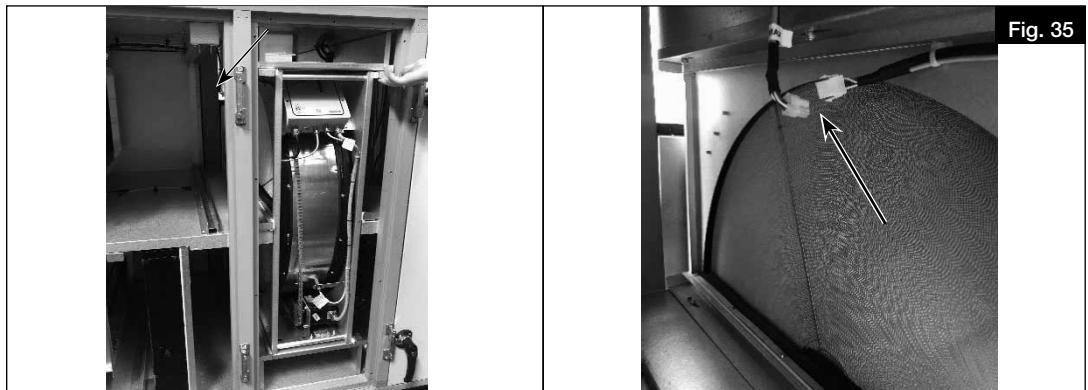

Fig. 35
2. Disconnect electrical connections from the drive module (see Fig. 35).